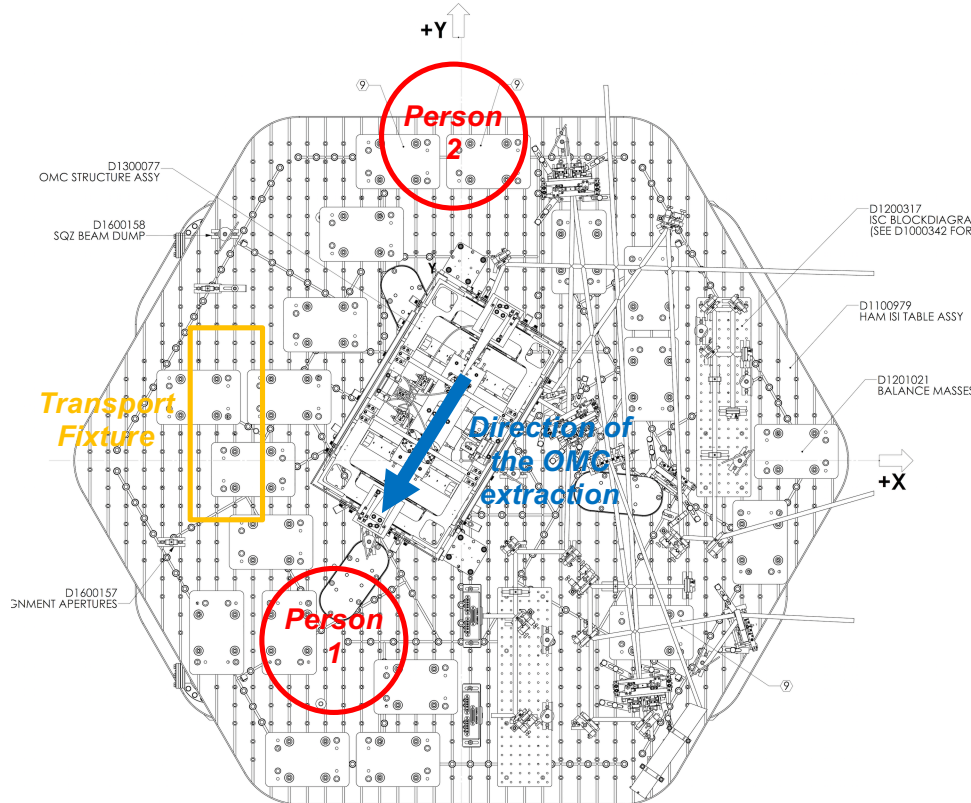

Figure 8: HAM6 layout, personnel/item arrangement, and OMC extraction
- Place the OMC transport fixture (D1201515) next to the OMC suspension cage (Figure 8).
- Two persons should be around the OMC at +Y and -Y directions (Figure 8).